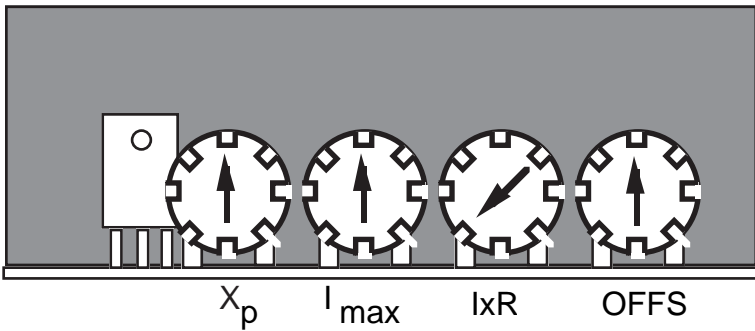

Fig 1.1
- 1 Set the trim-potentiometers according to fig 1.1.